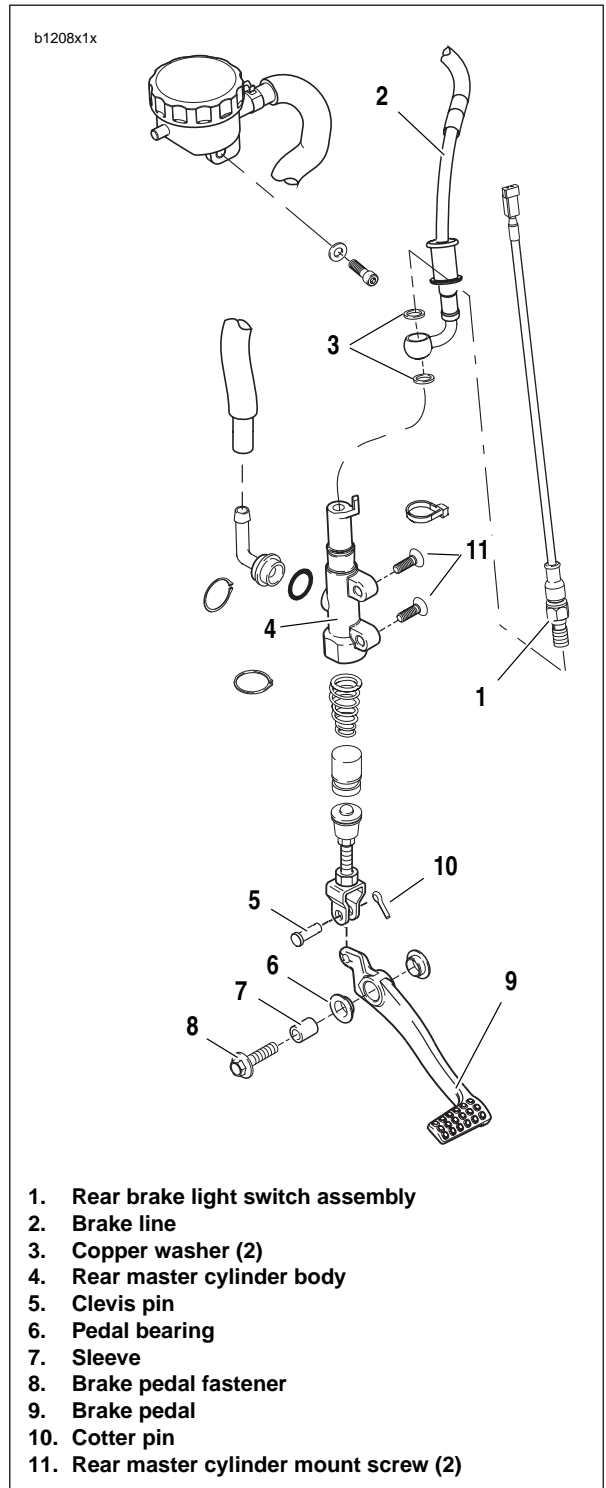

Figure 2-52. Brake Line Switch Connector
6. See Figure 2-52. Disconnect brake light connector located under the seat.
- a. If removed, attach remote reservoir (1) to frame using fastener and washer (3). Tighten to 48-72 **in-lbs** (5.4-8.1 Nm).
- b. Attach hose (3) to rear brake reservoir using clamp.
5. See Figure 2-52. Connect brake line switch connector under seat.